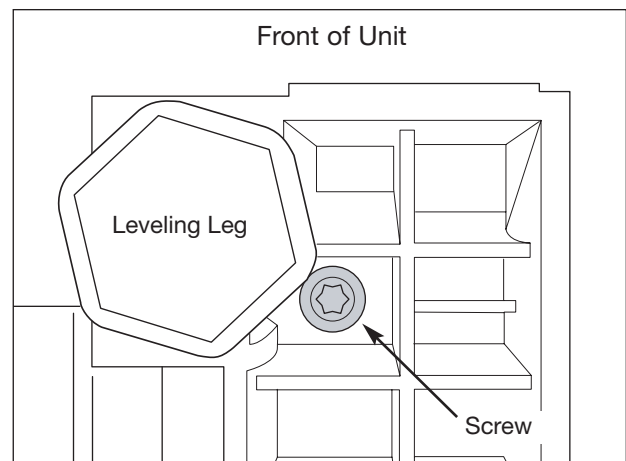

Figure 5-29. Leg and Hinge Assembly Removal
10. Using a #20 Torx bit, extract the screw from the unit base securing the leg and hinge assembly to the unit frame. The leg and hinge assembly may now be pulled out from its installation position. (See Figure 5-29)